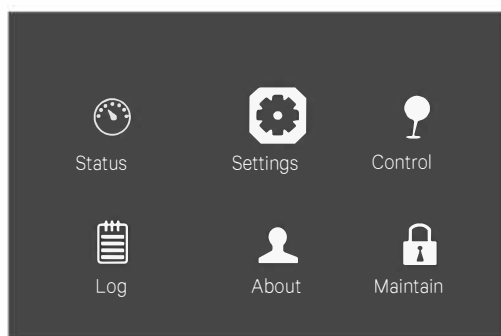

Figure 2-33 Main menu screen
a) At main menu screen, press the or key to select 'Settings', and press the key to enter the interface shown in Figure 2-33.